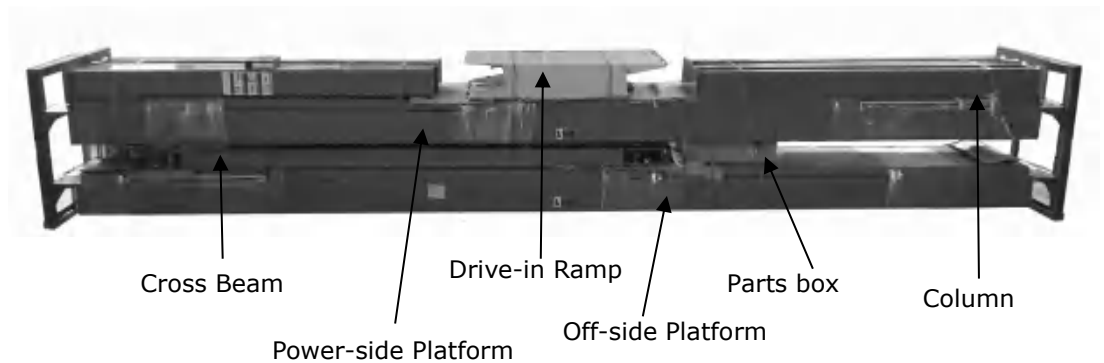

Fig.6
2. Open the outer packing, check all the parts according to the parts list (See Fig. 6).